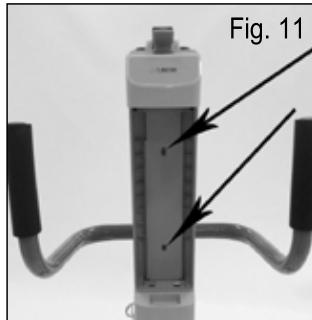

Fig. 11
2. As soon as you have assembled the mount, fit the control unit on it, letting it slide from top to bottom and blocking it with the screws. (Fig.11)